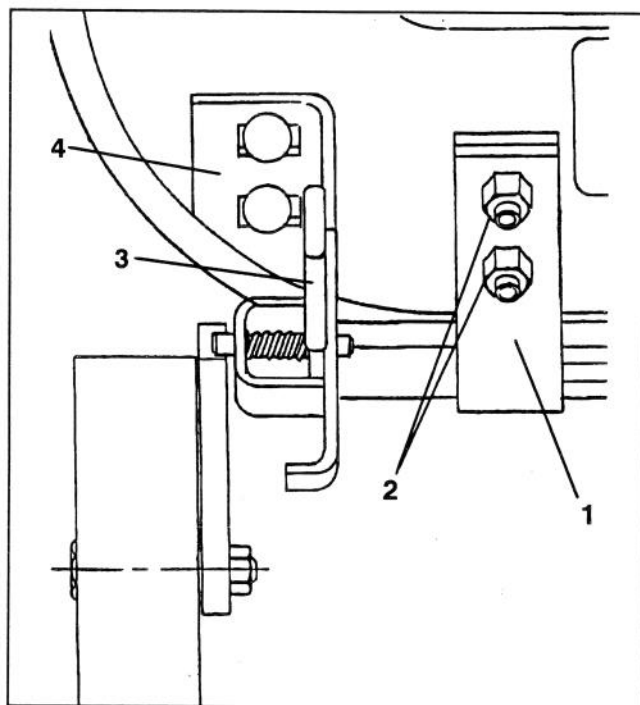

Figure 7
11. Mount gage wheel assembly to mower deck with mounting brackets, carriage bolts and nuts previously removed (Fig. 7). Position height-of-cut lever in quadrant slot when mounting. (Fig. 7).